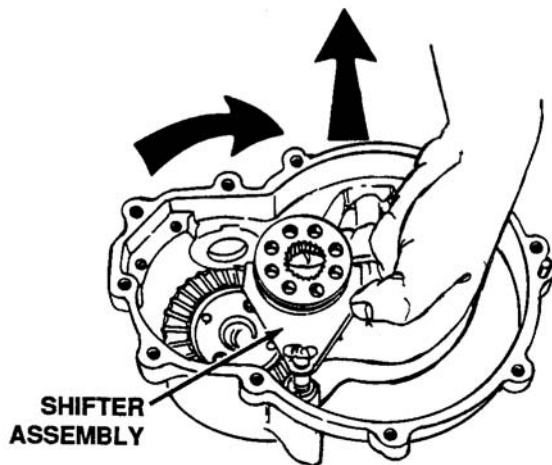

Figure 5-15. Removing Shifter Assembly
16. Lift up on the shifter assembly and rotate to remove it from the housing. See Figure 5-15.